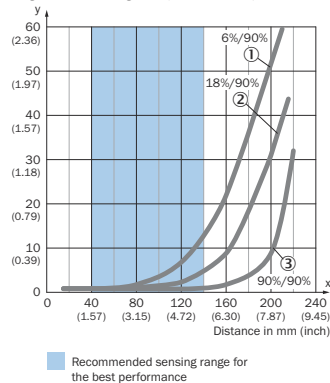

Figure 5: Characteristics
The minimum distance (= y) for the background suppression can be determined from the diagram [figure 5 ①] as follows: